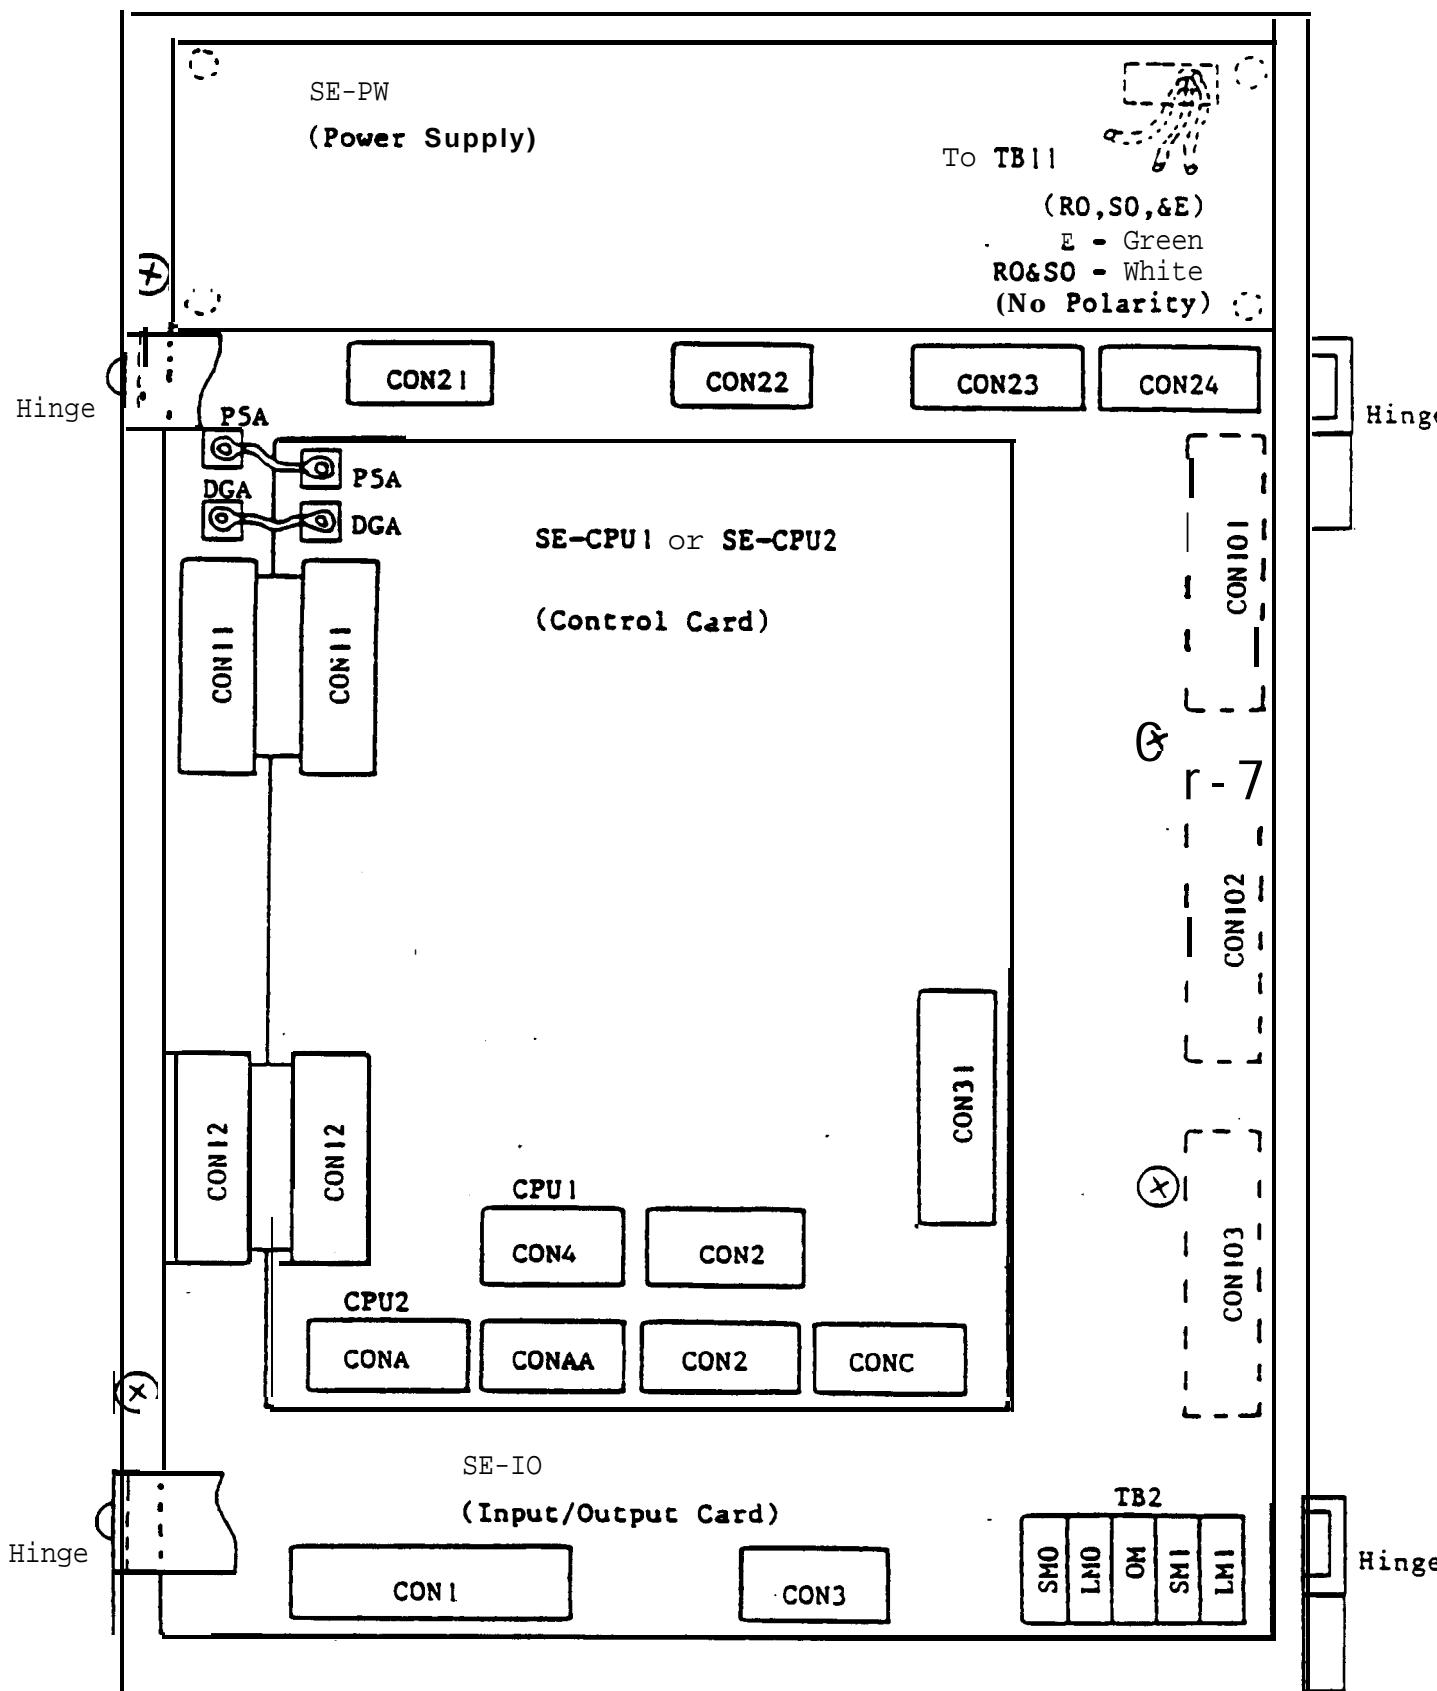

Figure 2
2. Removal of SE-CPU card. (Refer to Fig. 2)
- (2) Remove the card while **compressing the card installation spacer claws**.
3. Removal of **SE-IO** card. (Refer to Fig. 2)
4. Remove the SE-PW power **supply**. (Refer to Fig. 2)